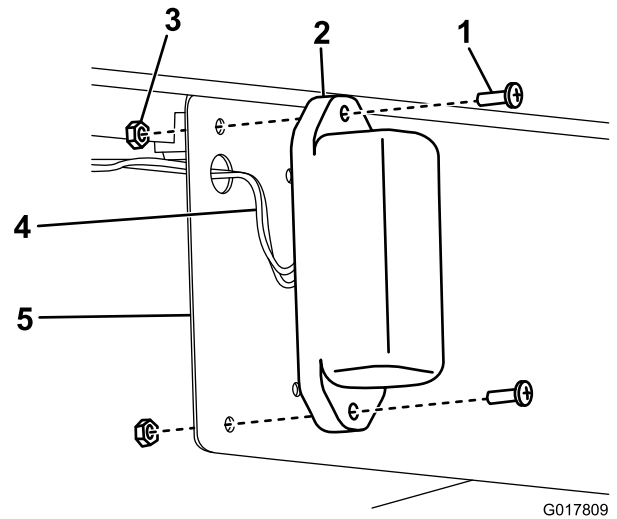

Figure 7
4. Insert the wires through the large holes in the plate bracket and connect to the 2 plate lights (Figure 7).
5. Install the plate lights to the plate bracket using the 4 Phillips-head screws (#10 x 5/8 inch) and 4 locknuts (#10) as shown in Figure 7.